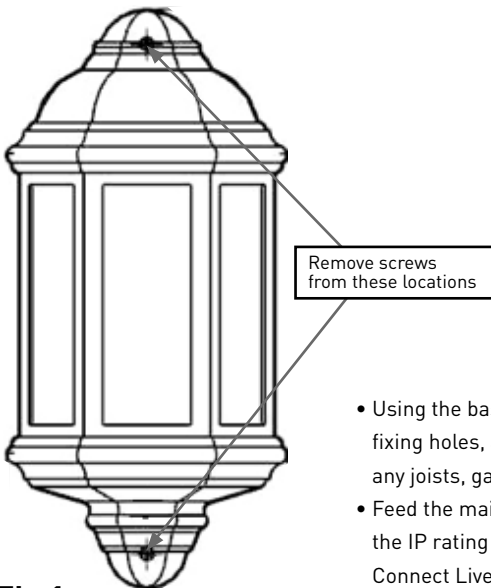

Fig 1
- Remove the 2 screws on the front of the luminaire (see Fig 1)